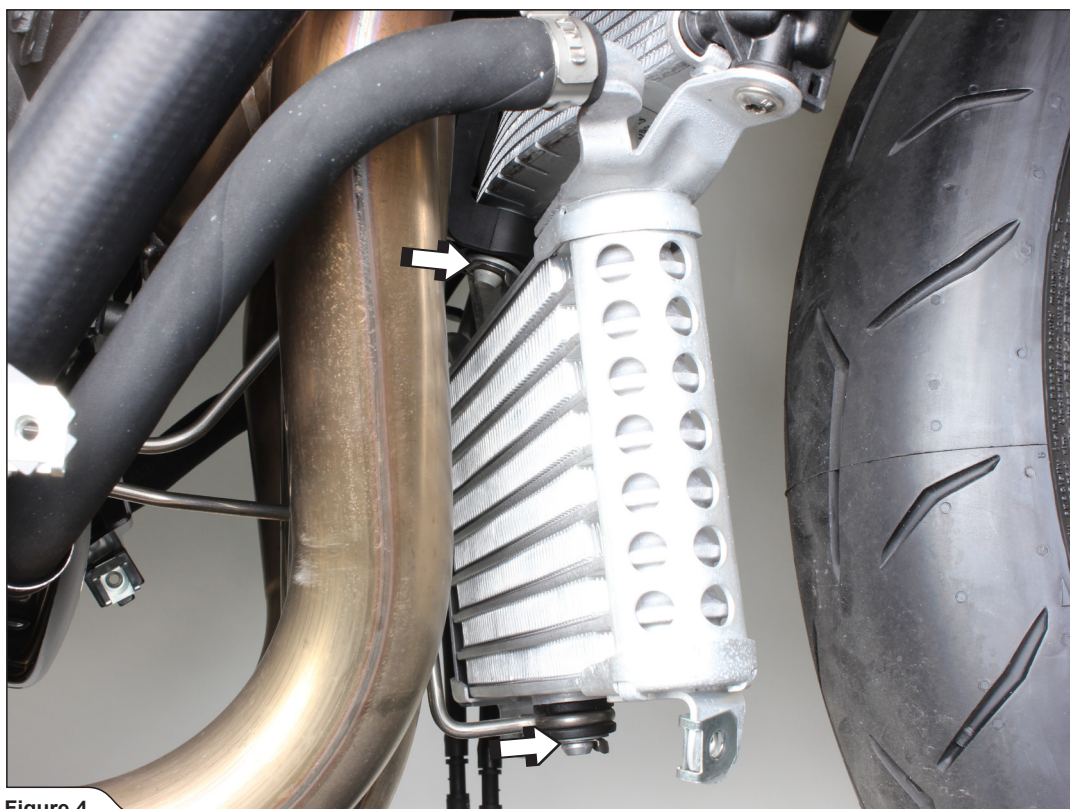

Figure 4
4. Undo the marked snap rings, unscrew the marked bolt and carefully remove the radiators' bracket off the motorcycle (Figure 4, 5).